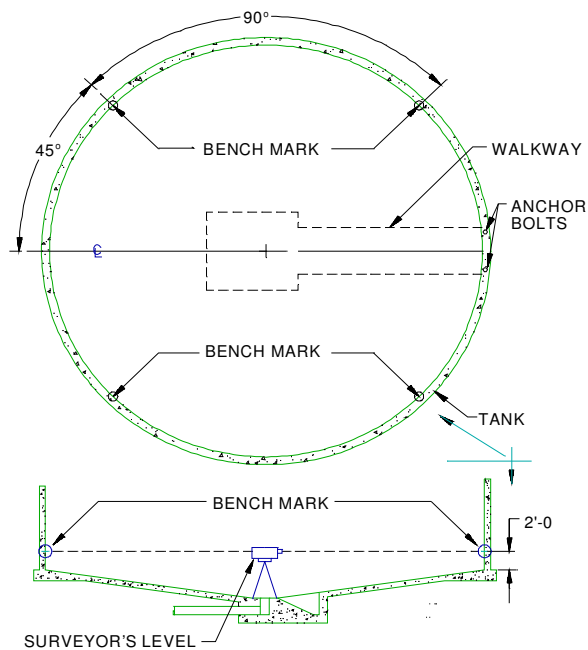

Figure 1 Bench Mark Drawing.
1. Using a surveyor's level, benchmark the tank wall at four equally spaced locations (90 degrees apart) and approximately 2 feet above tank bottom. **These reference marks will be used later to check final level of the drive.** They should be oriented 45 degrees from walkway centerline (See Figure 1).